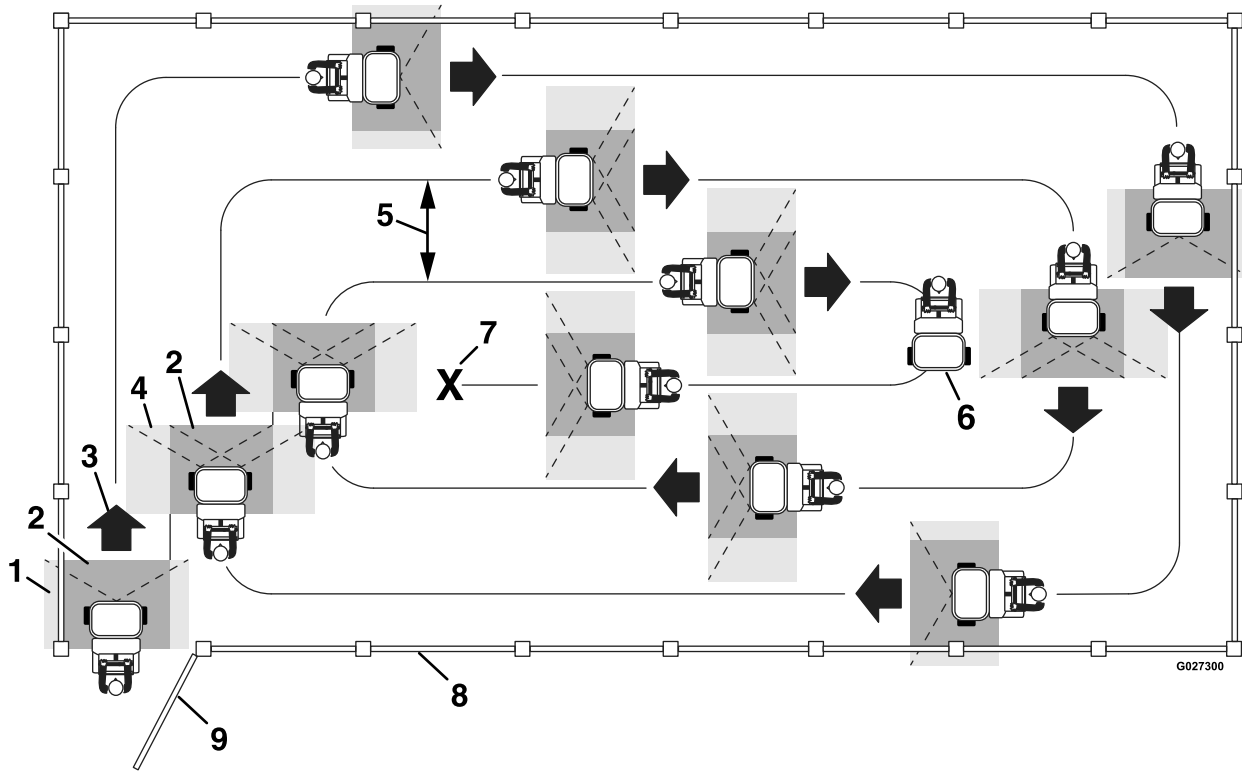

Figure 52
- Do not overlap the effective spray area that you have previously sprayed (see Figure 52).